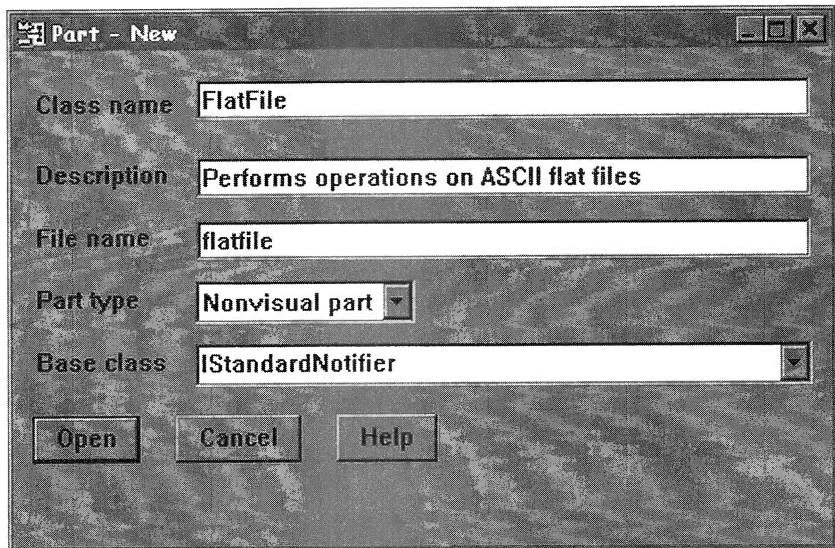

Figure 167: New FlatFile part
- ☐ The dialog should look like Figure 167. Press the **Open** push button to start editing the **FlatFile** part.